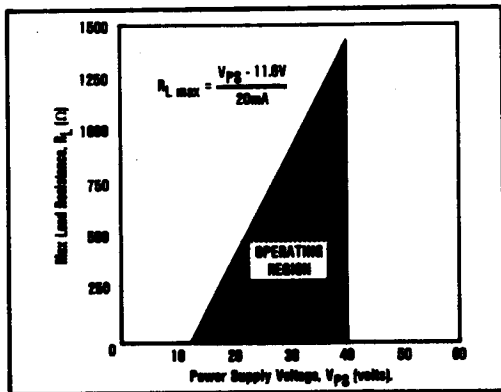

FIGURE 2. Power Supply Operating Range.
6. Always choose  $R_L$  (including line resistance) so that the voltage between pins 7 and 8 ( $+V_{CC}$ ) remains within the 11.6V to 40V range as the output changes between the 4mA to 20mA range (see Figure 2).